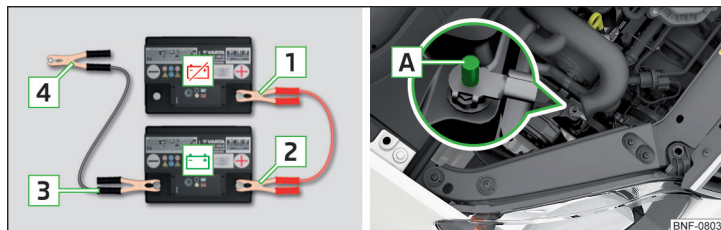

Fig. 125 Jump-starting: - Discharged battery, - power-supplying battery / ground point of the engine for the START-STOP system
- For vehicles **with** the START-STOPsystem, attach clamp **4** to the ground point of the engine **A** » Fig. 125.